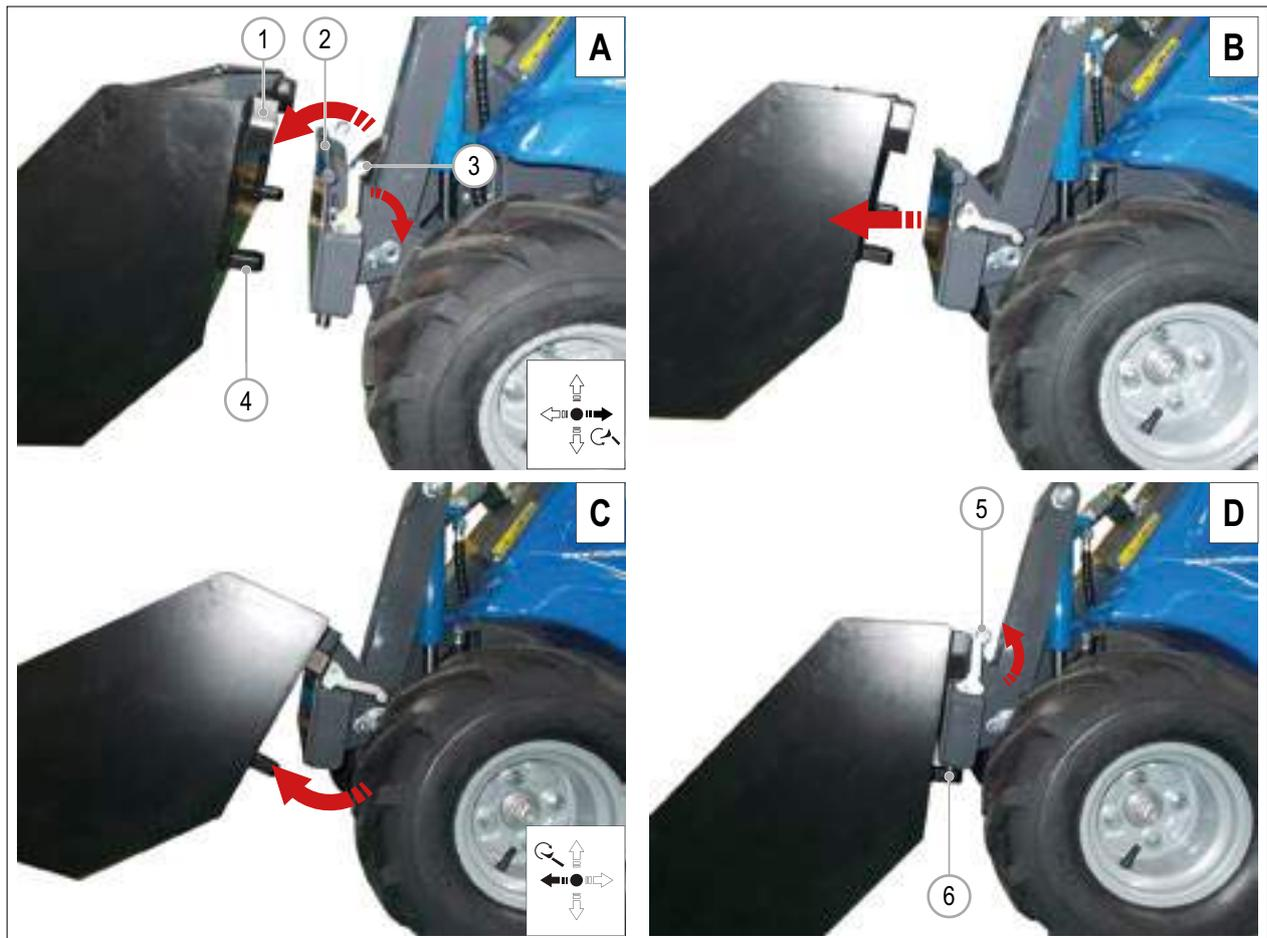

FIG. 12
- 3) Push the multifunction lever to the right in order to tilt forward the quick coupler (**FIG. 12 - Ref. A**).
- 6) Turn down on the two levers (**FIG. 12 - Ref. 3**) placed on the quick coupler, in order to raise the two hook plugs.
- 8) Moving carefully approach the quick coupler of the machine to the one of the attachment in order to insert the round top profile (**FIG. 12 - Ref. 2**) in the special curved housings of the attachment (**FIG. 12 - Ref. 1**).
- 9) Move slowly the multifunction lever to the left, in this way the quick coupler leans backward and aligns with the quick coupler of the attachment (**FIG. 12 - Ref. C**).
- 11) Rotate upwards the two levers (**FIG. 12 - Ref. 5**) in this way the two plugs of the quick coupler are correctly inserted in the fitted seats of the attachment.
- 13) Lift the attachment and lean it forward moving the multifunction lever to the right to check visually the two plugs (**FIG. 12 - Ref. 6**) of coupling are correctly inserted in the fitted seats of the attachment. If not, relocate the attachment on the ground and repeat the procedure from step 3).
- 5) Rotate down the two levers (FIG. 12 - Ref. 3) from the quick coupler in order to disengage the two plugs.